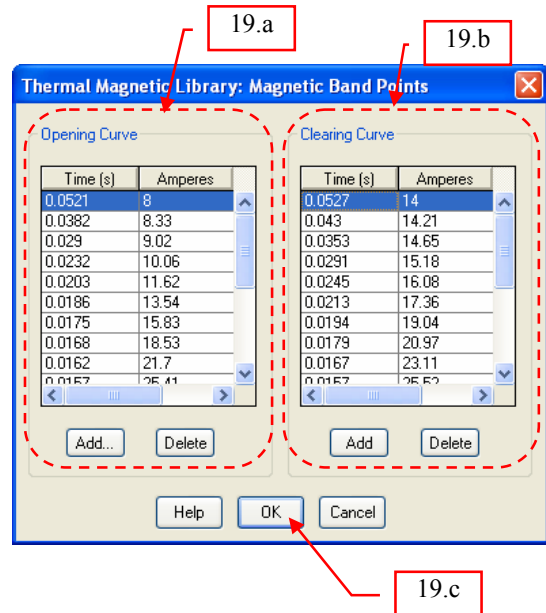

Fig. 22
19. In the “Thermal Magnetic Library: Magnetic Band Points” dialog box, do the following (see Fig. 22):
- b. Similarly, in the “Clearing Curve” frame (see Fig. 22), enter the 11 points given in column “Curve D of Table 2: Locus of Points” on page 13.